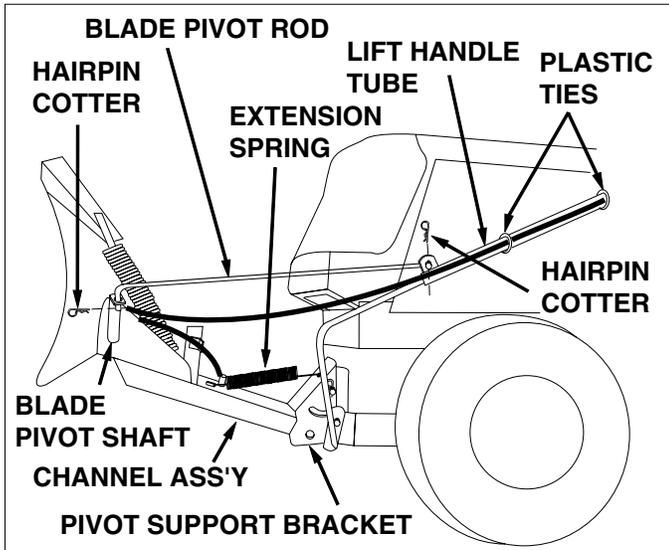

FIGURE 20 (Left Hand Side View)
- Attach the long end of the extension spring to the upper hole in the pivot support bracket and the short end to the center slot in the channel as shown in figure 20.
- Attach the long end of the blade pivot rod down through the blade pivot shaft and the short end of the blade pivot rod to the lift handle tube. Secure both ends with a hairpin cotter pushed through to loop end. See figure 20.
- Use the two plastic ties to hold the cable securely to the outside of the handle tube and away from the tractor to avoid direct heat from the tractor muffler. See figure 20.
- Refer to figure 20.